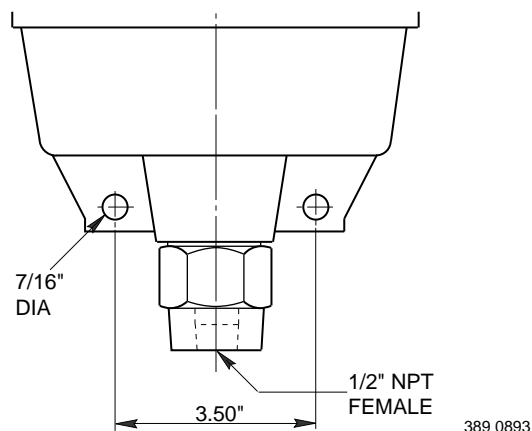

FIGURE 7 – Primer mounting dimensions
- A. Mount directly on pump case using standard pipe fittings. A bracket (not furnished) may be needed to support the primer and prevent damage to piping when operating primer. Refer to Figure 7 on page 4 for primer mounting dimensions.